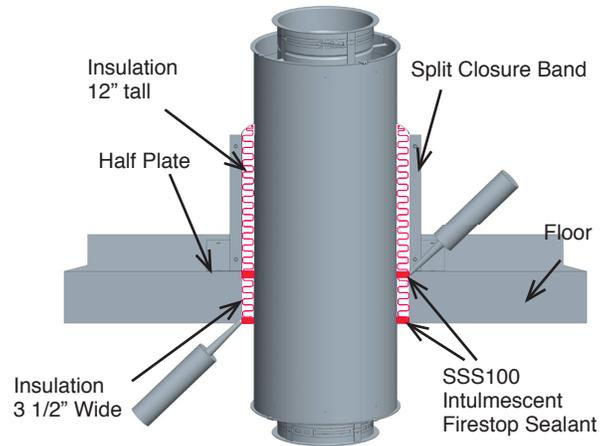

Figure 81- Through Penetration Firestop FLOOR Penetration
NOTE:- For Floor Penetration, use one **TPFK**. See **Figure 81** and **Figure 79**.
4. Apply a minimum ½" depth of **S-TPFS** (SSS100 from SpecSeal), flush with both surfaces of the wall. See **Figure 81**.